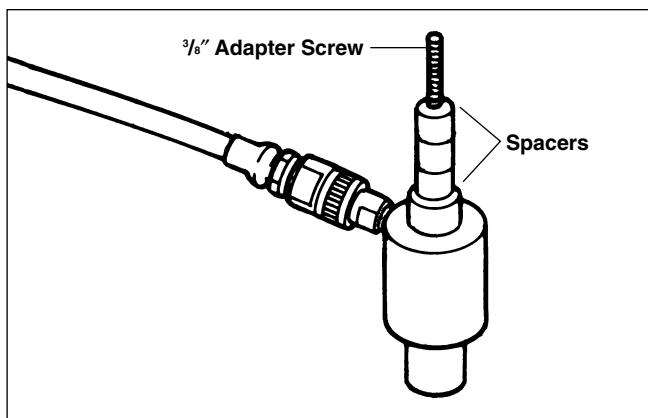

Figure 2 – Set-Up For $\frac{1}{2}$ " Holes
4. Place three spacers over the $\frac{3}{8}$ " draw bolt starting with the shortest and continuing with medium and long spacers (Figure 2).